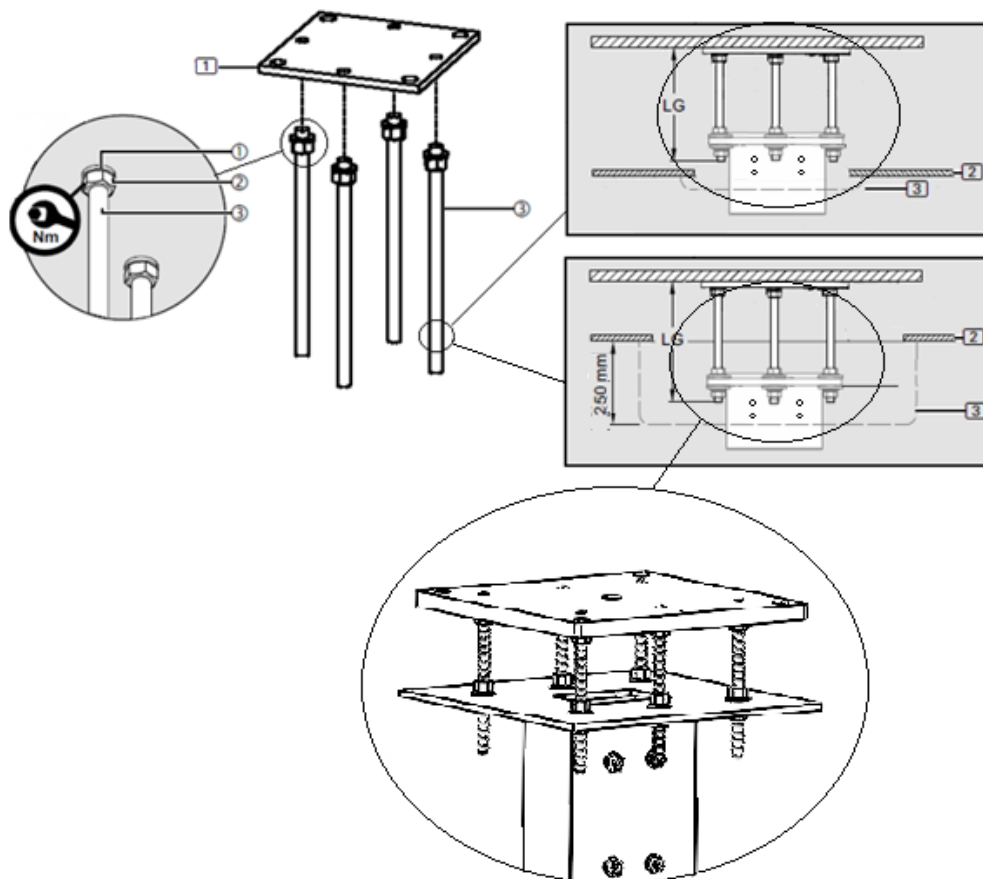

Fig. 6 Installation of interface plate in room with false ceiling
supplied as shown in the top right of figure 6. The other possibility is that the distance between the slab and the false ceiling is not sufficient for a correct installation and energy supply, in this case a 250mm high trim can be ordered (optional) as shown in the lower right part of figure 6.
- The ceiling trim (3) is later mounted flush with the false ceiling. It covers the entire area of the connecting screws as shown in the detail in figure 6.
- Fit 1 spring washer (1) and screw 1 M10 hex nut (2) each onto the M10 threaded bolts (3).